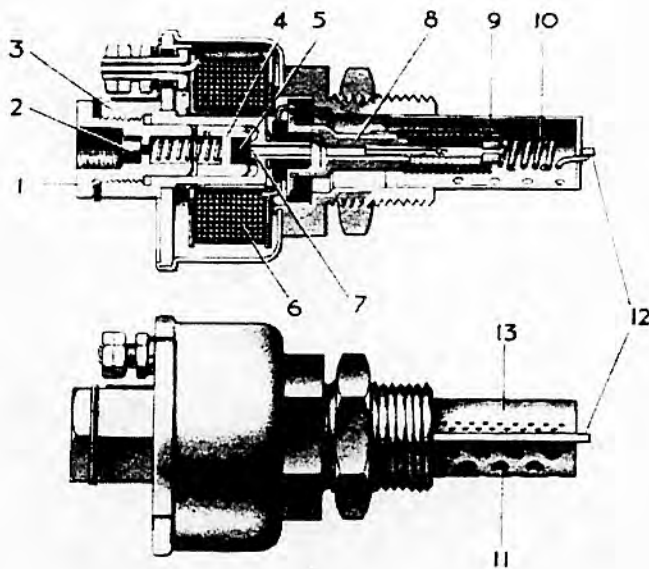

FIG. 122 CROSS SECTION OF THERMOSTART
Description (Fig. 122)
Basically, the Thermostart consists of a core (3, Fig. 122), a solenoid (6), a spring-loaded plunger (4), fitted with a special rubber insert (5), which butts against a valve seat (7), a coil carrier (8), bearing two heater coils (9, 10) and a circular shield having large perforations (11) on one side, small perforations (13) on the other and a small flange (12), running along its outer surface.